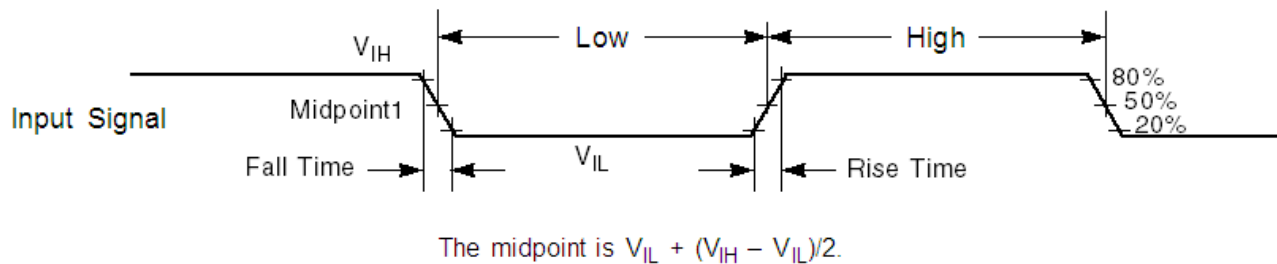

Figure 1. Input signal measurement reference
4. Examples calculated using V_{IL} relation, V_{DD} , and max I_{IND} : $Z_{IND}=V_{IL}/I_{IND}$. This is the impedance needed to pull a high signal to a level below V_{IL} due to leakage when $V_{IL} < V_{IN} < V_{DD}$. These examples assume signal source low = 0 V. See Figure 1.